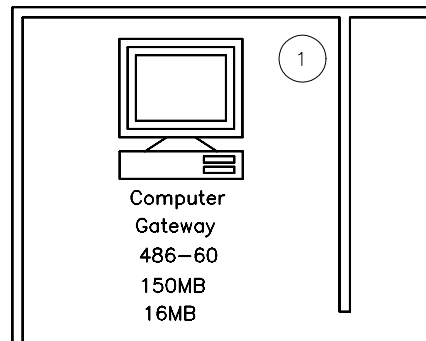

Figure 15-34 Zoomed view of the first computer
1. Open the drawing that was created in Example 2. The drawing has six blocks with attributes. The name of the block is **COMP**, and it has five defined attributes, one of them invisible. Zoom in so that the first computer is displayed on the screen (Figure 15-34).